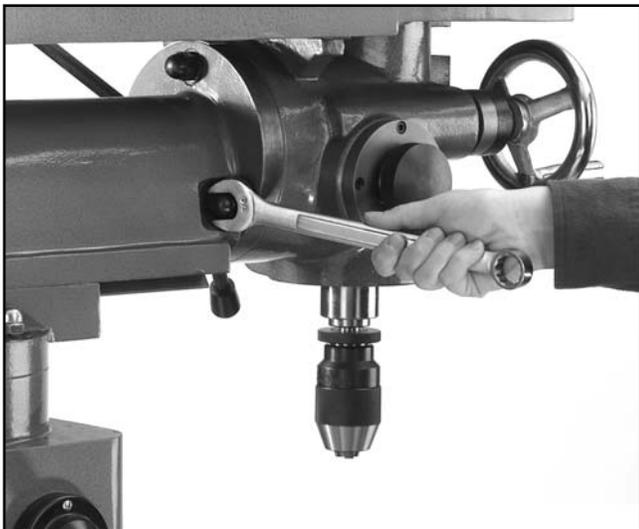

Figure 9. Loosen bolts to tilt head.
1. Loosen 3 of the 4 hex nuts shown in **Figure 9**.